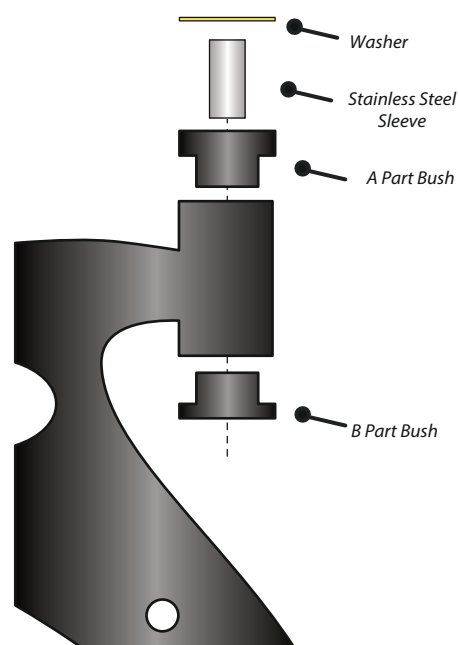

Figure 2
8. Place the plated washer onto the end face of the A Bush shown in Fig 2, at the point of presenting the wishbone to the subframe.